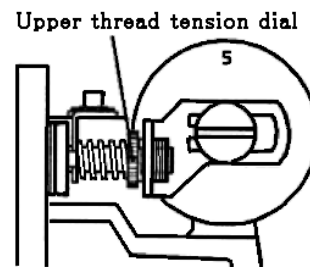

Fig.2
2. Turn the upper thread tension dial, adjust the upper thread tension.(Fig. 2)